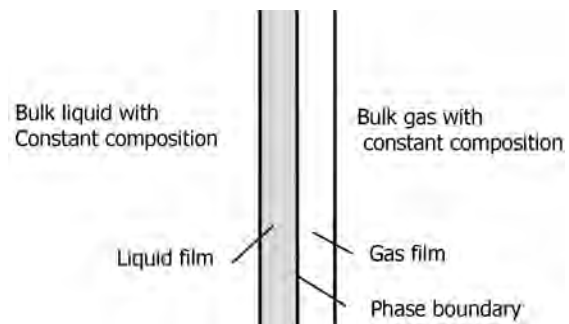

FIGURE 15.4 Simplified diagram illustrating two-film theory.
- Figures 15.4 and 15.5 illustrate the two-film theory.